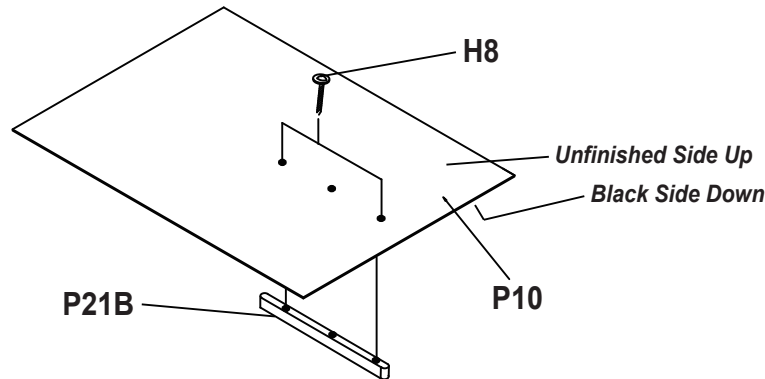

Figure 1
2. Attach the SUPPORT PANEL, P21B, to the FRONT BOTTOM PANEL, P10, using (2) SCREWS, H8, through the two outer holes as shown in Figure 1. The middle hole will be used in a later step. *Note: The P10 panel and P21B support panel both have pre-drilled holes for screws.*